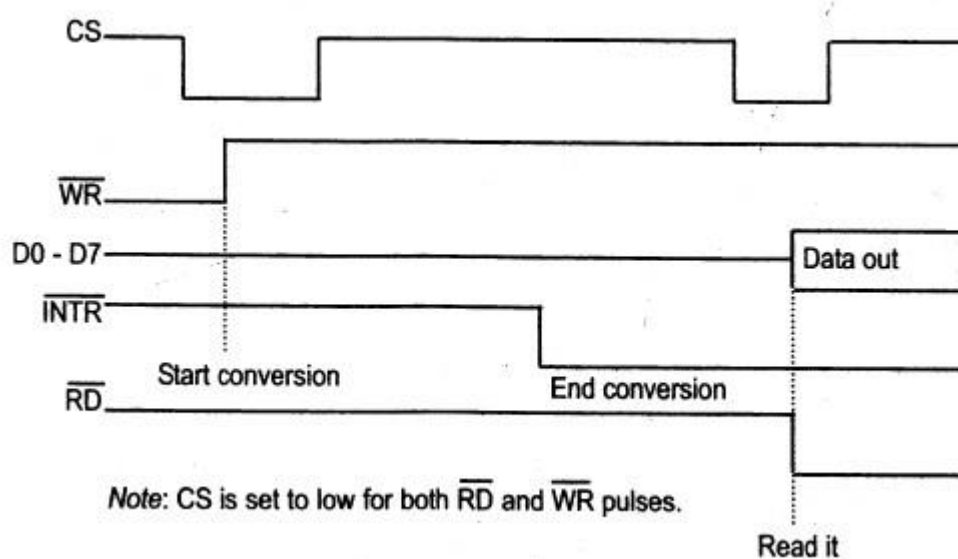

Figure 5.6 Read and Write Timing for ADC8804
- Figure 5.6 shows the timing diagram for ADC process.